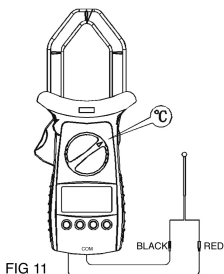

FIG 11
I. Model UT206: Temperature Measurement (See figure 11)